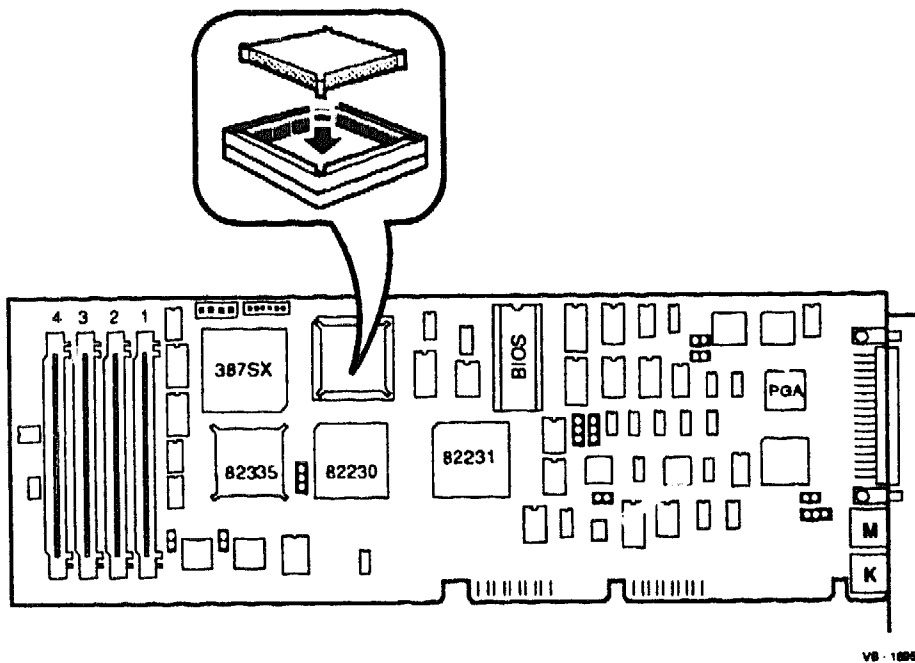

Figure 5-12 Replacing the Math Coprocessor on the processor board
6. Remove the math coprocessor by lifting it straight up with even pressure applied to opposite corners until it is removed from its socket (Figure 5-12).
7. Install the replacement math coprocessor in the processor board by aligning the corner notch of the coprocessor into the socket and applying even pressure on opposite corners until it is seated (Figure 5-12).